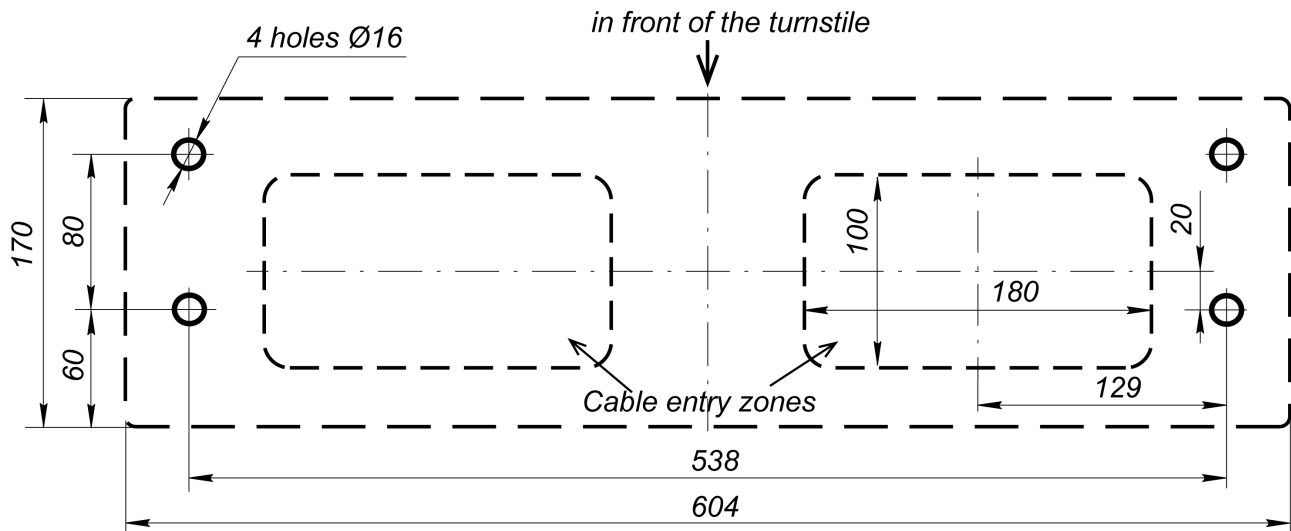

Figure 14. Hole marking on the mounting surface
4. Mark and drill holes in the floor for anchors to fix the turnstile and cable channel in the cable entry zone (see Fig. 14). The marking can be carried out by tracing the base of the mounting post.